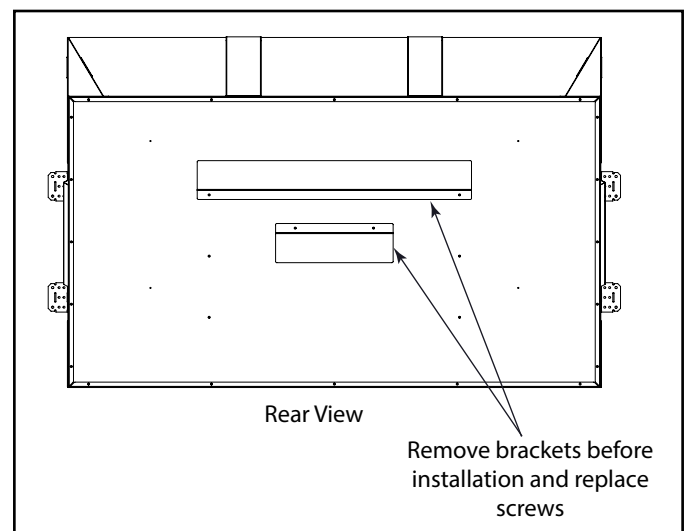

Figure 2.1 Bracket Removal
- **NOTE: Remove rear packaging brackets (2) before installing unit. See Figure 2.1.**